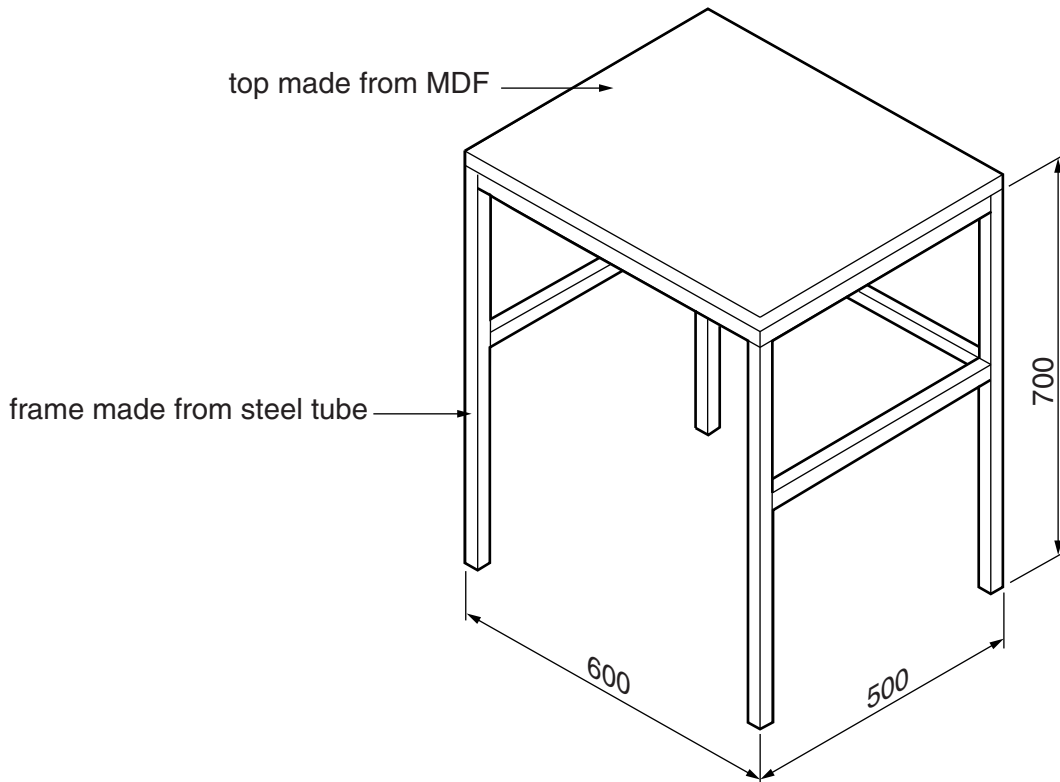

Fig. 9
- 9 Fig. 9 shows an incomplete idea for a desk for a teenager's bedroom.